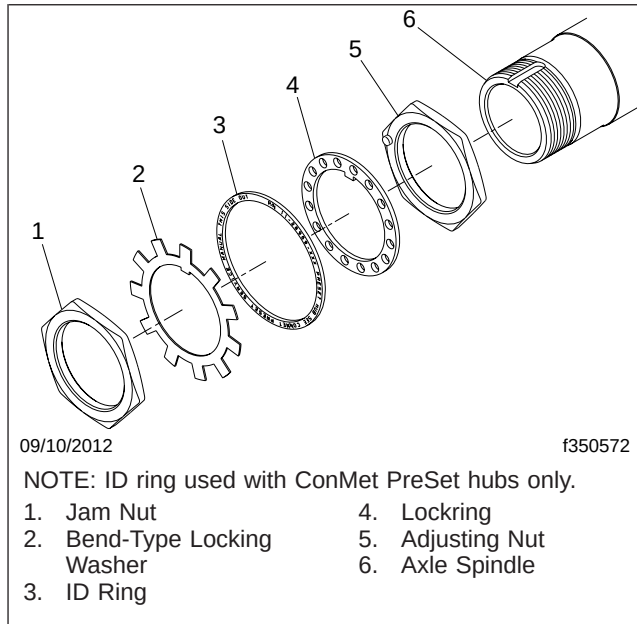

Fig. 1, Double Spindle Nut Set
ConMet PreSet hubs may use a double spindle nut system. See Fig. 1. A plastic ID ring between the adjusting nut and locking washer indicates that a ConMet Preset hub has been installed.
1. Install the adjusting nut onto the axle spindle, and tighten it 300 lbf·ft (410 N·m). See Fig. 1.